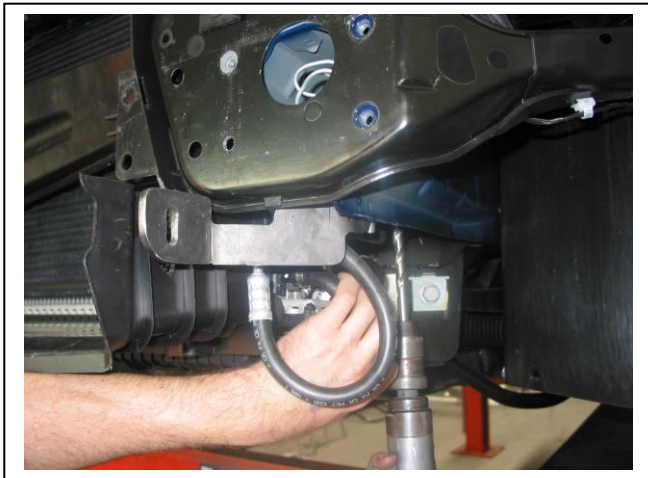

Figure 7 – Passenger's side shown
14. Using lower steel mounting bracket as a guide, drill a 10mm hole through rear of bracket. Attach with 3/8 x 1 1/4 bolt with washer on 400mm wire, nuts, flat and spring washers (supplied). **See figure 7. FINGER TIGHTEN ONLY.**